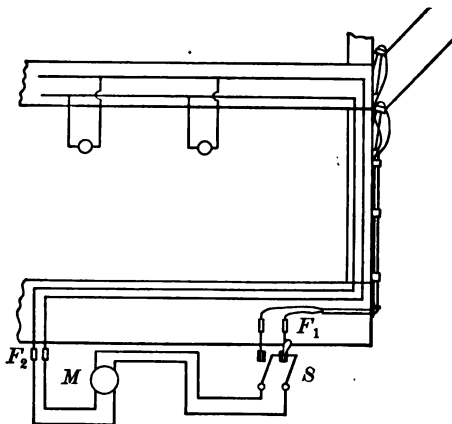

FIGURE 223.—WIRING DIAGRAM OF A HOUSE CIRCUIT.
A city ordinance usually requires that all new wiring must enter the house at the basement. Just after it enters the house it passes through fuses. (F_1 , Figure 223.) Then it goes through the service switch (S) to the meter (M); then through another set of fuses (F_2); and then to the fixtures in the house; all the appliances being put in parallel, *across the line*.